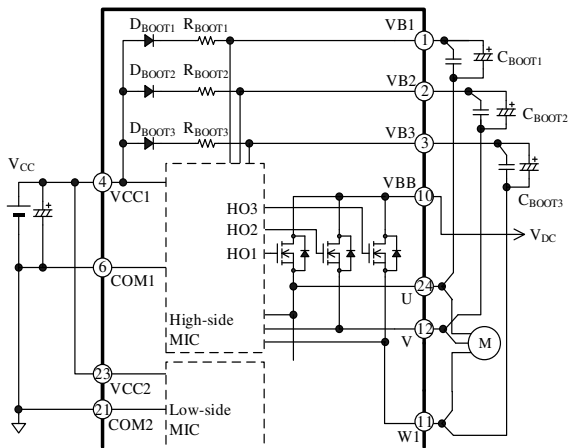

Figure 11-2. Bootstrap Circuit
As Figure 11-2 shows, a bootstrap diode,  $D_{BOOTx}$ , and a current-limiting resistor,  $R_{BOOTx}$ , are internally placed in series between the  $V_{CC1}$  and  $V_{Bx}$  pins. Time constant for the charging time of  $C_{BOOTx}$ ,  $\tau$ , can be computed by Equation (3):